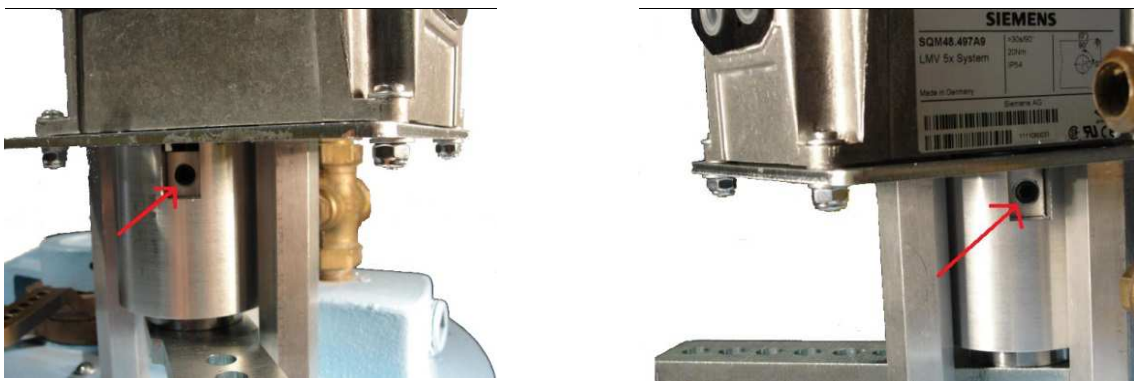

Figure 11: Tightening Clamp Collar Set Screws
10. Tighten clamp collar set screws. These three screws squeeze the bearing block shaft and clamp the actuator shaft. Two of the set screws can be accessed and tightened with the actuator in the 0-degree position. The third set screw (which is blocked by a standoff when the actuator is at the 0-degree position) needs to be tightened when the actuator is at approximately the 20-degree position. Two of these set screws are shown in Figure 11 below.